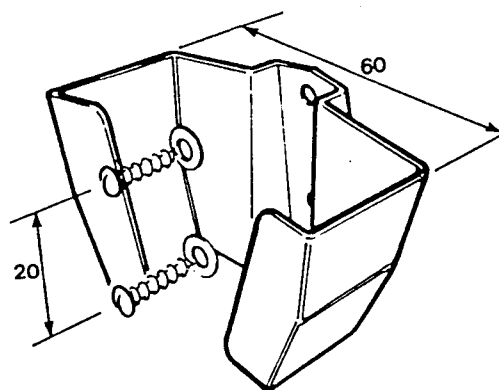

Fig. C-5 Microphone Installation
1. Drill two 2.2mm holes (No. 44 drill), spaced 20mm centre-to-centre, one above the other, as shown in Fig. C-5 at right.